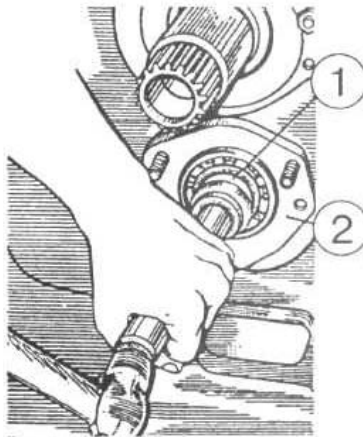

Figure 4.28
- e) knock driven shaft 1 (Figure 4.28) of PTO drive outwards and extract it from clutch body together with gear of stage II;